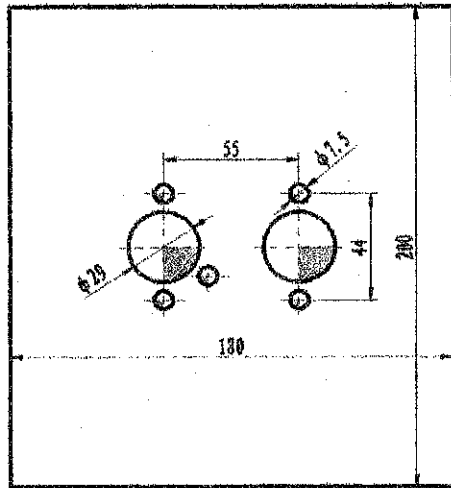

Fig 12
4.2.4 If the sickness of the installation panel <math> < 1.5\text{mm}</math> a mounting plate may need. Between mounting plate and the car body must also be sealed (use glass glue(Fig.12)).